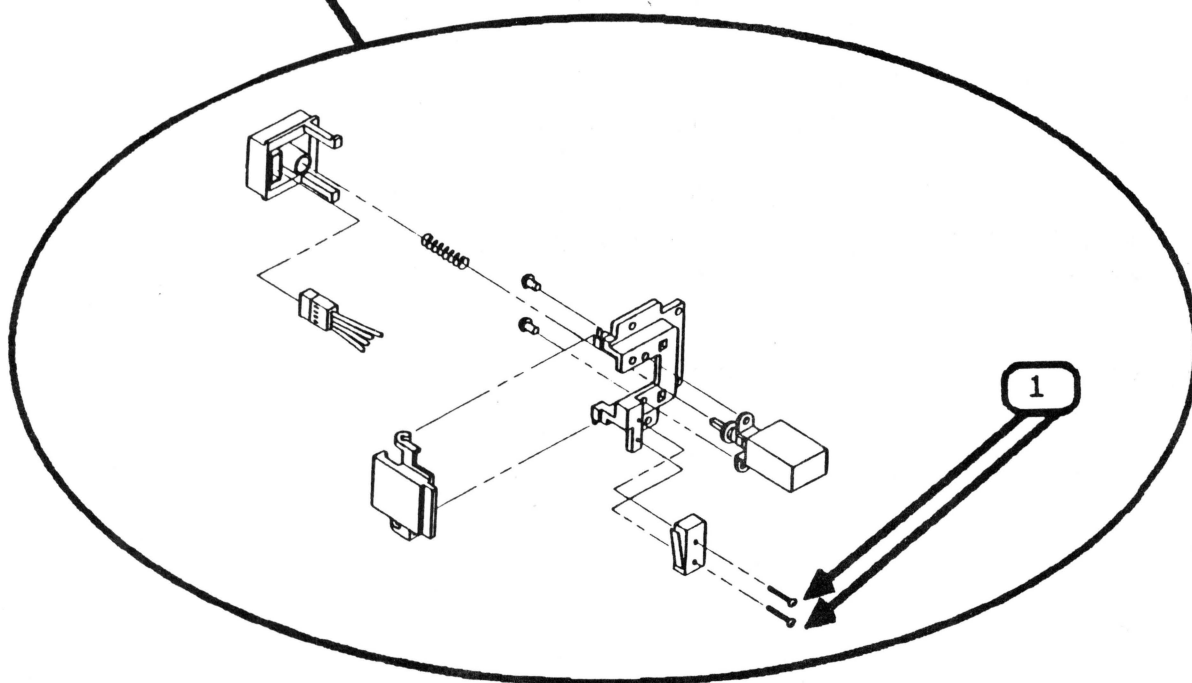

FIGURE 26
5. Remove the two screws (Figure 26, #1) that secure the switch to the plastic plate.